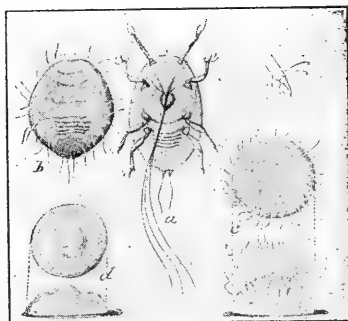

Fig. 138—San Jose Scale.
- 3. The larva begins to secrete the scale for a covering over its body. Fig. 138, c.